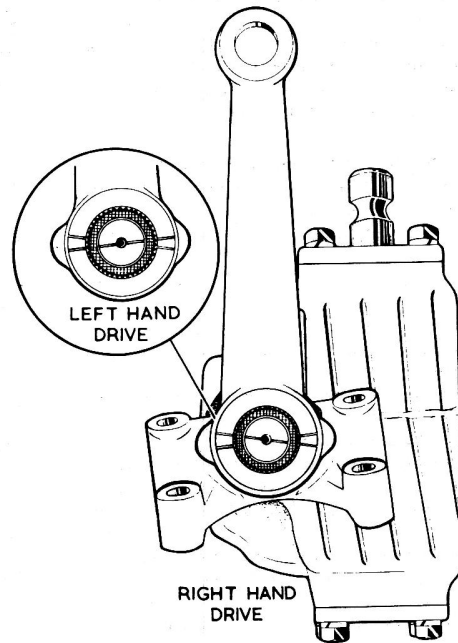

Fig.11.24. Alignment marks on rocker shaft and drop arm
7 Refer to Fig. 11.24 and take careful note of the position of the alignment marks so that the arm is fitted in the correct position on reassembly.
- 12 Fit the drop arm to the rocker shaft making sure that the splines mate correctly and that the scribed line on the rocker shaft matches the correct line on the drop arm (see Fig.11.24).